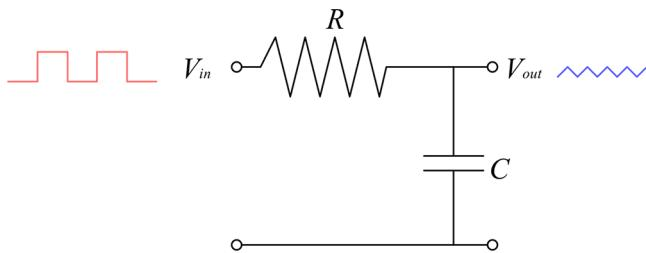

Figure 11.25: A typical low pass filter implemented with a resistor and a capacitor
An output square wave generated with the PWM technique can be filtered to generate a smoothed signal, that is an analog signal that has a reduced *peak-to-peak* voltage ( $V_{pp}$ ). A *Resistor-Capacitor* (RC) *low-pass* filter (see **Figure 11.25**) can cut-off all those AC signals having a frequency higher than a given threshold. The general rule of thumb of RC low-pass filters is that the lower is the cut-off frequency the lower is the  $V_{pp}$ 35. An RC low-pass filter uses an important characteristic of capacitors: the ability to block DC currents while allowing the passing of AC ones: given the R/C time constant formed by the resistor-capacitor network, the filter will short to ground those AC signal with a frequency higher than the RC constant, allowing to pass DC component of the signal and lower frequency AC voltages.